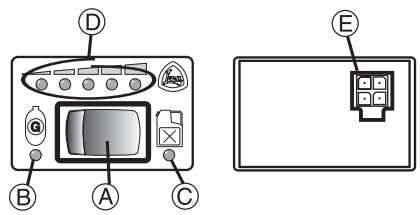

Fig. 5
5. INSTALLATION AND OPERATION OF SWITCH / GAUGE LCS A1 V05 (Fig. 5)